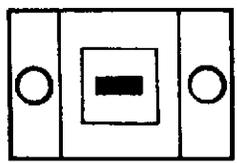
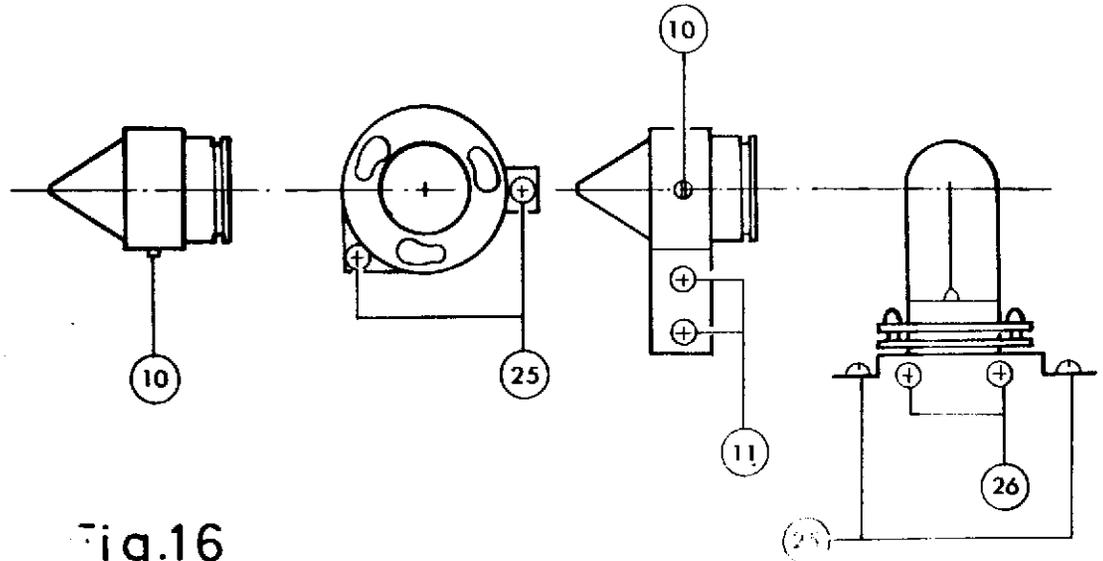

Fig.15
Fig.16
1. After checking (9)(2) for no oily, attach them in the reverse manner of the disassembly.
2. Turn on an exciter lamp. Adjust with (11) in Fig. 16 so that a solar battery (silicon photodiode) can receive the beam of (12) exactly as shown in Fig. 15.
3. After the above adjustment, attach (2). Adjust with (25) x 2, (26) x 2 to see that the filament of exciter lamp aligns with the sound lens as shown in Fig. 16.
4. After the above adjustment, running a sound focus film P035, adjust the position of (12) slightly up and down, right and left so that volume gets maximum.